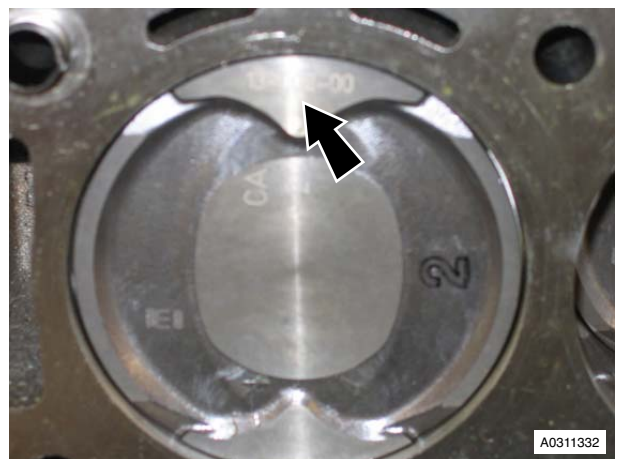

Figure 15
- 33. Note that piston grade number on crown and thick flange on connecting rod faces to front of engine on RH bank (A) (see Figure 15).